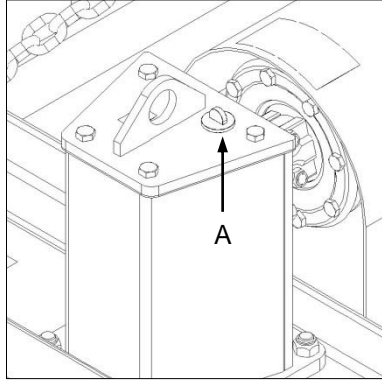

Fig. 4
- ✔ A dipstick (Fig. 4-A) is provided on the implement gearbox for this purpose. The oil level should fall within the area indicated on the dipstick.
- ✔ Die ratkas het 'n peilstok (Fig. 4-A) vir hierdie doel. Die olievlak moet binne die perke val wat op die peilstok aangedui word.